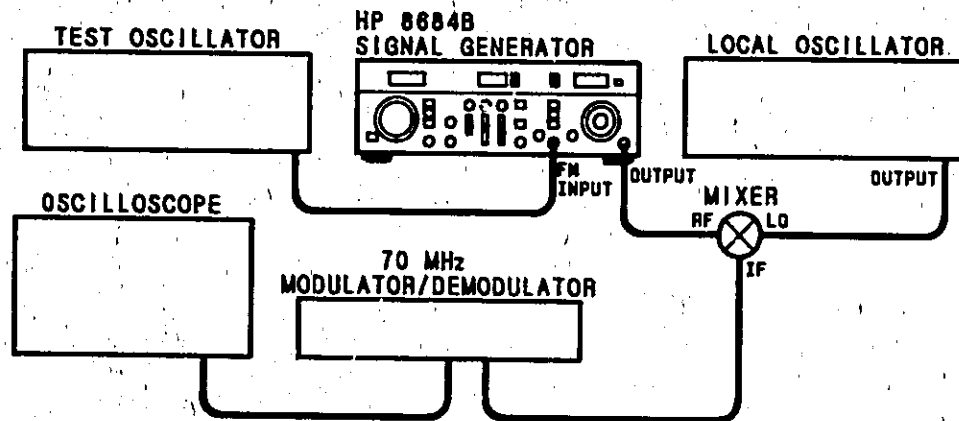

Figure 4-8. FM Rate Test Setup
1. Connect equipment as shown in Figure 4-8, and set Signal Generator under test to 8 GHz with an output level of 0 dBm or higher. Set generator used as a local oscillator to 8.070 GHz with the highest power available.